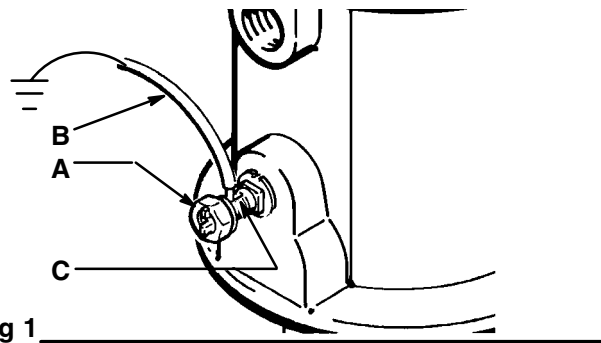

Fig 1
1. *Pump*: loosen grounding lug locknut (A) and washer. Insert one end of a 12 ga (1.5 mm²) minimum groundwire (B) into slot in lug (C) and tighten locknut securely. See Fig. 1. Connect the other end of the wire to a true earth ground. Always check your local code. Order Part No. 237569.